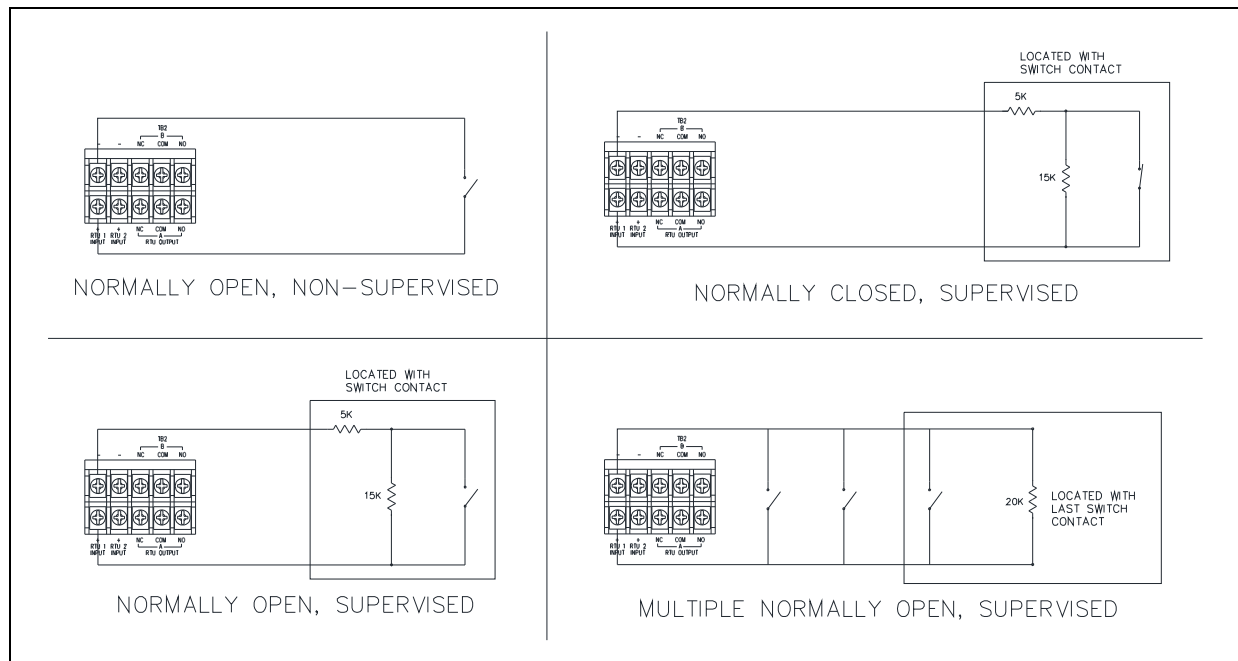

Figure 8. RTU Input Wiring Configurations for Cable Monitoring
5. Install end-of-line resistors as shown to enable RTU input-cable monitoring (see Figure 8).